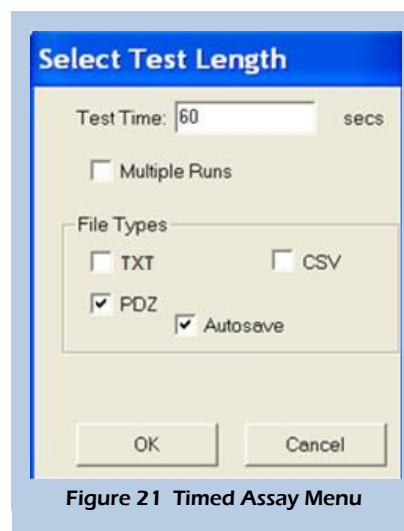

Figure 21 Timed Assay Menu
4. **ENTER** desired Test Time (at least 60 seconds for calibration data) (see Figure 21).